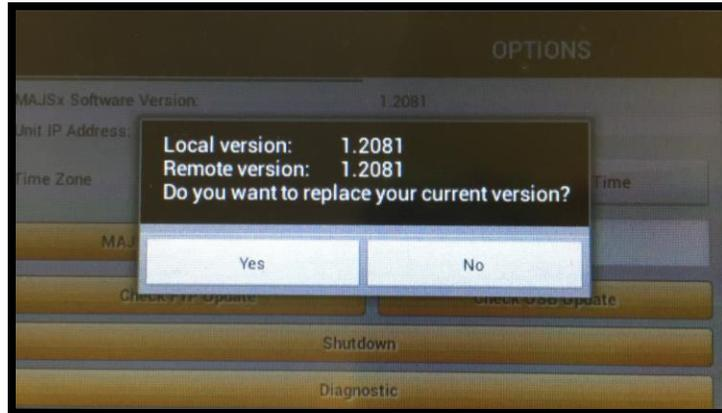
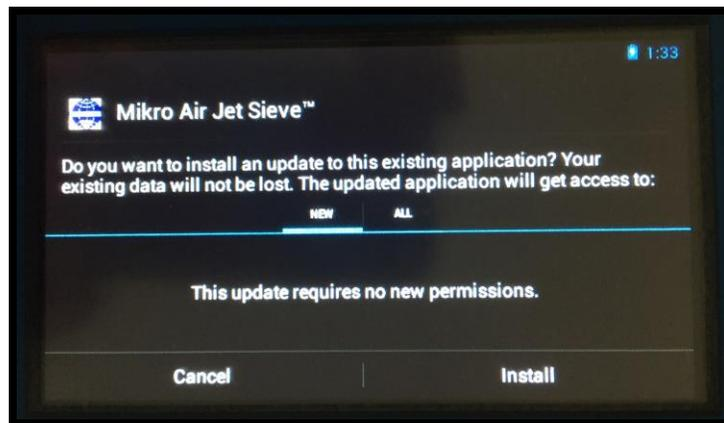

Figure 10
Figure 11
- ii. A window will be displayed with the existing software version and the updated software version, should there be an update (see Figure 10). Follow the on-screen instructions to successfully install the updated software (Figure 11).
- ii. A window will be displayed with the existing software version and the updated software version, should there be an update (see Figure 10). Follow the on-screen instructions to successfully install the updated software. (Figure 11)